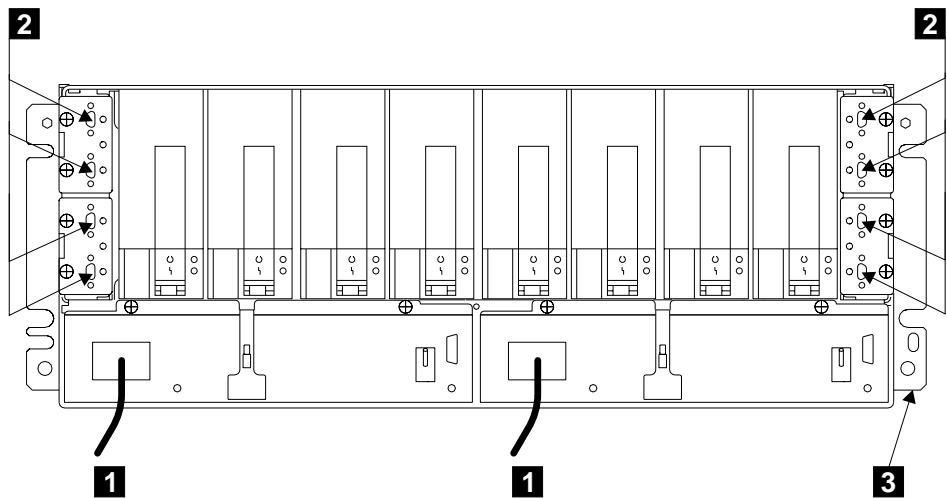

Figure 36. Power Cables and SSA Sockets (Model D40)
1. Refer to Figure 36.
8. Follow your local procedures and check the grounding of the 7133. Any test equipment must be connected to the **frame of the 7133** (**3** in Figure 36 on page 65).